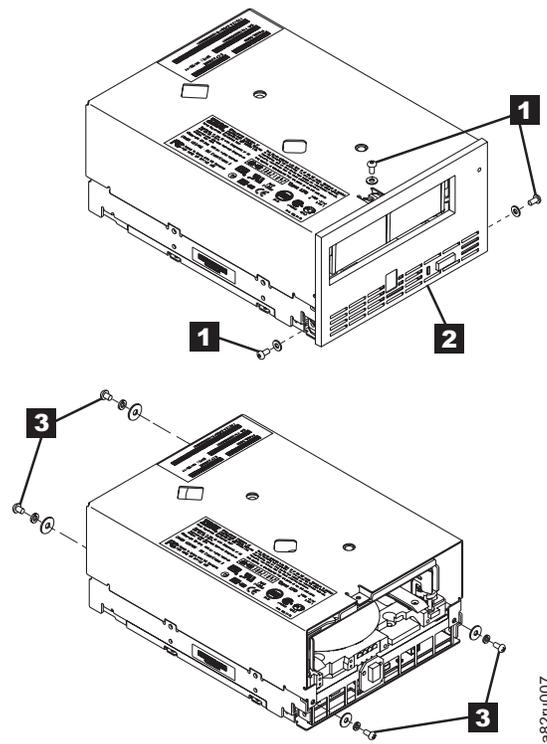

Figure 8-72. Removing the cover from the internal drive
- a. Using a Phillips screwdriver, remove the three screws and washers (see **1** in Figure 8-72) that secure the bezel (see **2**) to the internal drive, then remove the bezel.